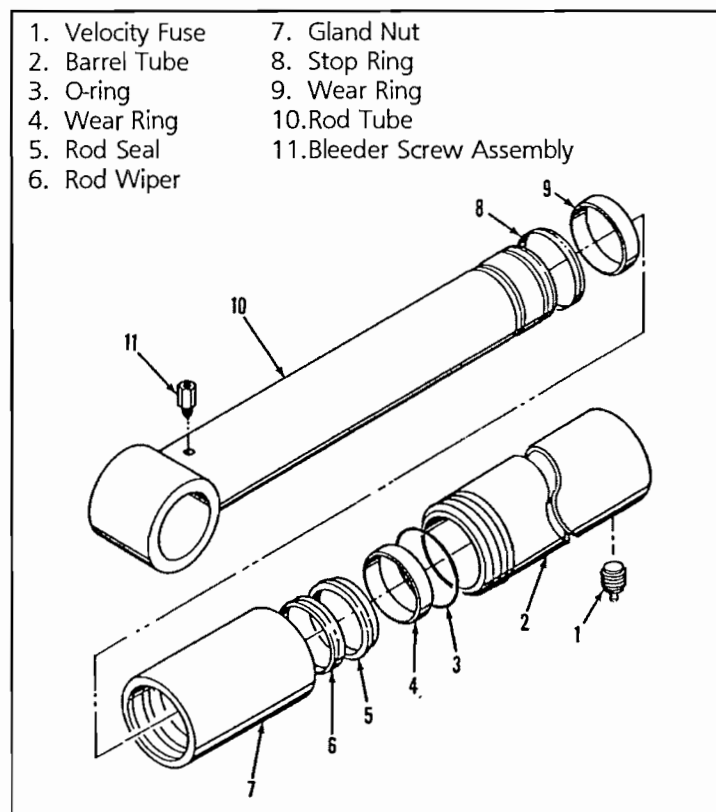

Figure 4-15: Lift Cylinder Assembly
### DISASSEMBLY (FIGURE 4-15)
### REASSEMBLY (Figure 4-15)
7. Operate the hydraulic lift circuit with the bleeder screw (Figure 4-15) loose to allow trapped air to escape the lift cylinder. Once hydraulic fluid flows continuously from bleed port, tighten the bleeder screw. Check for leaks.